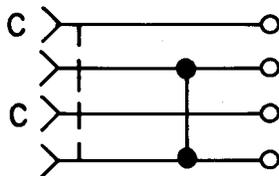

Fig. 9—465-Type Jack
**2.09 465B, C, E, F, G, and H:** These coaxial-type jacks (Fig. 9) consist of a pair of coaxial jacks held rigidly in a metal cover. Each jack has an inner contact held in a tubular shield which is the outer contact. The outer contacts of the two jacks are connected together electrically. These jacks are to be mounted in jack mountings such as the 185 and 230A. The ac test voltage is 2000 volts. These jacks are used with the 337 or similar-type plugs.